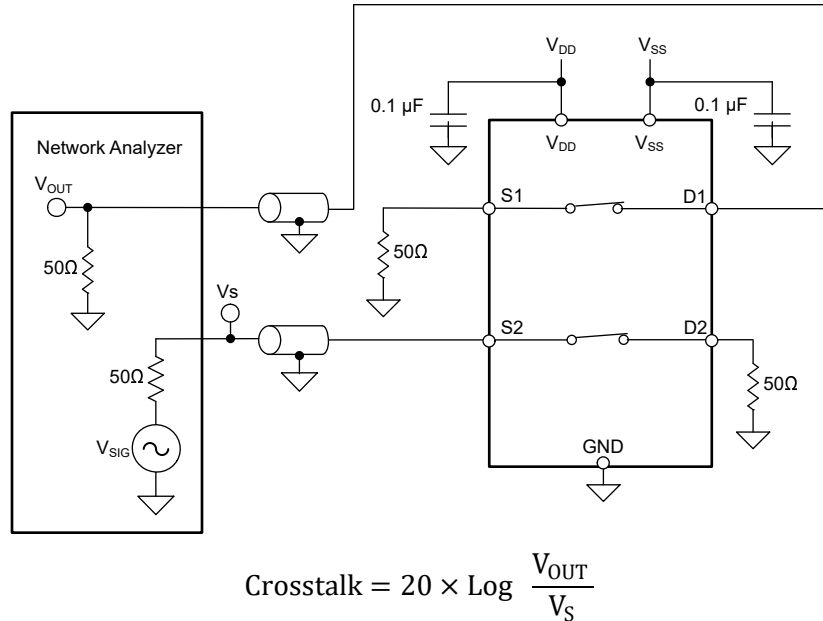

Figure 6-9. Crosstalk Measurement Setup
Crosstalk is defined as the ratio of the signal at the drain pin (D) of a different channel, when a signal is applied at the source pin (Sx) of an on-channel. **Figure 6-9** shows the setup used to measure, and the equation used to calculate crosstalk.